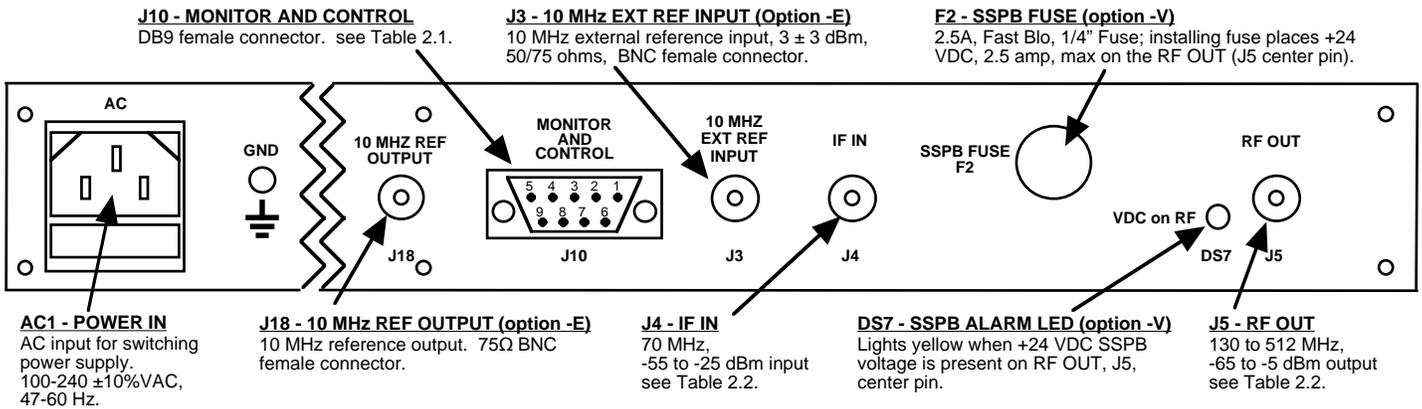

FIGURE 2.1 2015-1351 Rear Panel I/O's
2.2 Rear Panel Input/Output Signals - Figure 2.1 shows the input and output connectors on the rear panel.
1. Connect a -55 dBm to -25 dBm signal to IF In, J4 (Figure 2.1).
7. Option -V only - To insert SSPB +24 VDC on the RF center pin install 2.5A fast blo fuse in F2 and check that DS7 lights yellow (Figure 2.1).